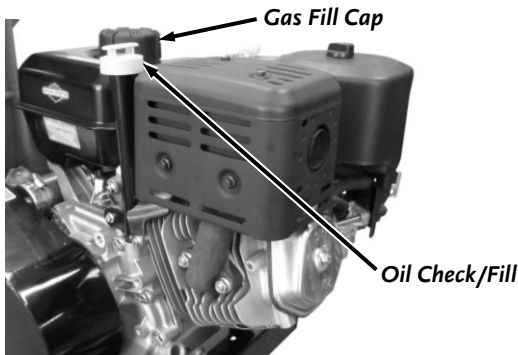

Figure 21a: Pro-475
1. Place the machine on a level surface and remove the Dipstick (clean the end of the Dipstick with a rag) (**Figure 21a and 21b**).
1. Remove the Gas Fill Cap and fill the Gas Tank with fresh, unleaded gas (with a minimum of 85 Octane) to approximately 1" to 1-1/2" below the top of the fill neck to allow for fuel expansion (**Figure 21a and 21b**). Be careful not to overfill and reinstall the Gas Fill Cap before starting the engine. See your Engine Owner's Manual for more detailed information.